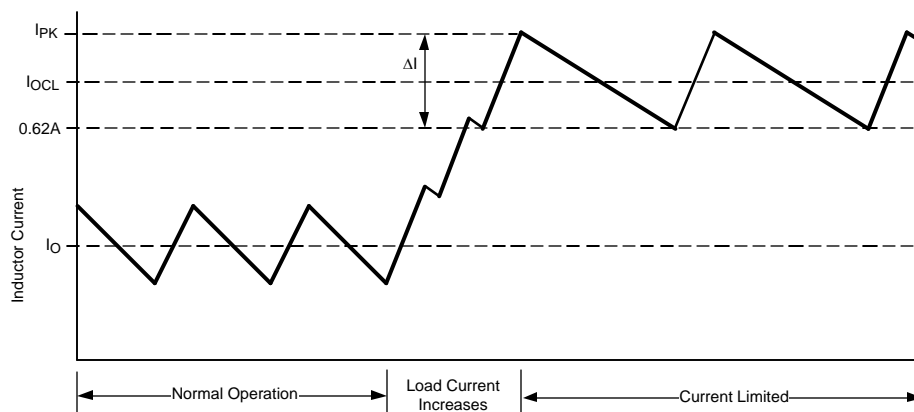

Figure 12. Inductor Current - Current Limit Operation
Figure 12 illustrates the inductor current waveform. During normal operation the load current is  $I_o$ , the average of the ripple waveform. When the load resistance decreases the current ratchets up until the lower peak reaches 0.62A. During the Current Limited portion of Figure 12, the current ramps down to 0.62A during each off-time, initiating the next on-time (assuming the voltage at FB is  $<2.5V$ ). During each on-time the current ramps up an amount equal to:
**D1:** A Schottky diode is recommended. Ultra-fast recovery diodes are not recommended as the high speed transitions at the SW pin may inadvertently affect the IC's operation through external or internal EMI. The diode should be rated for the maximum  $V_{IN}$  (30V), the maximum load current (0.6A), and the peak current which occurs when current limit and maximum ripple current are reached simultaneously ( $I_{PK}$  in Figure 12), previously calculated to be 0.92A. The diode's forward voltage drop affects efficiency due to the power dissipated during the off-time. The average power dissipation in D1 is calculated from: